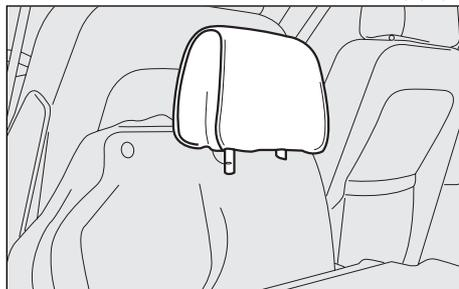

fig. 42
– remove the side headrests from the rear seat and insert them in the special housings on the cushions (**fig. 42**).